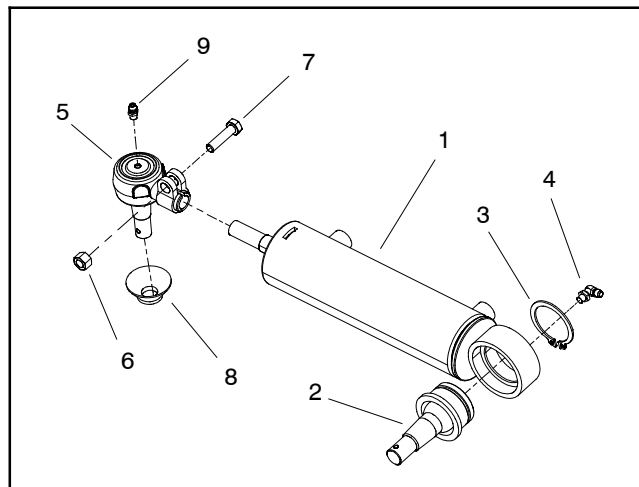
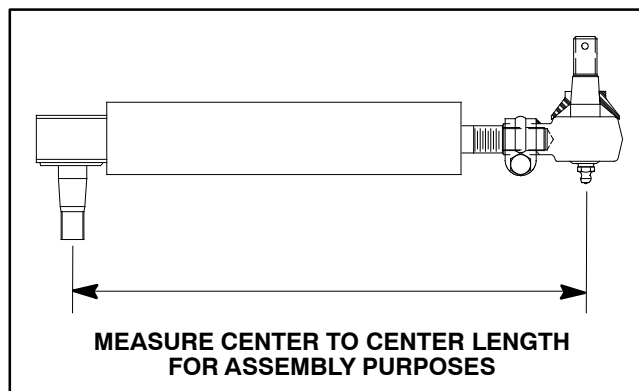

Figure 82
Figure 83
6. Remove two (2) jam nuts (item 11) that secure steering cylinder to axle. Remove cotter pin (item 12), washer (item 14) and slotted hex nut (item 13) that secure steering cylinder to RH drag link.
8. If necessary, remove ball joints from steering cylinder barrel and shaft (Fig. 82). If ball joint is to be removed from cylinder shaft, fully retract cylinder shaft and measure center to center length to ease installation of ball joint onto cylinder shaft (Fig. 83).